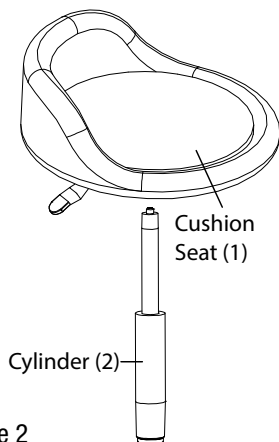

Figure 2
2. Slip the cushion seat (1) onto the cylinder (2). Firmly push the cushion seat (1) down to secure it into the cylinder (2). (Figure 2)